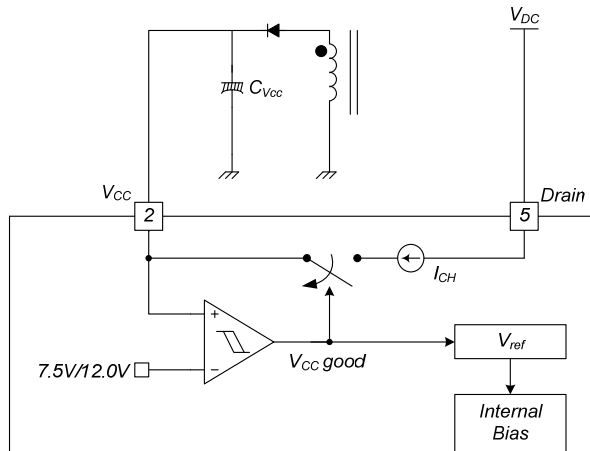

Figure 17. Startup Block
**1. Startup:** At startup, an internal high-voltage current source supplies the internal bias and charges the external capacitor ( $C_{VCC}$ ) connected to the  $V_{CC}$  pin, as illustrated in Figure 17. When  $V_{CC}$  reaches 12V, the FSD146MRBN begins switching and the internal high-voltage current source is disabled. The FSD146MRBN continues normal switching operation and the power is supplied from the auxiliary transformer winding unless  $V_{CC}$  goes below the stop voltage of 7.5V.